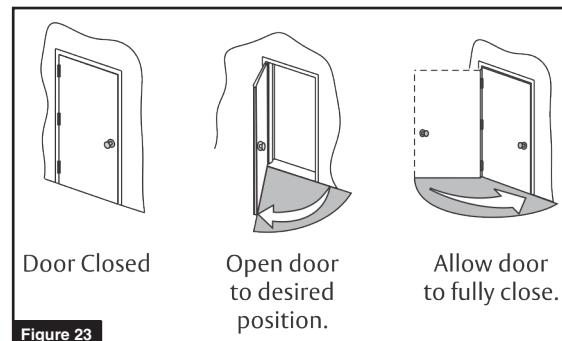

Figure 23
- Push in on joystick again, while door is still closed, to set Home or closed position (Figure 23). Display changes to “Set Open Limit”.
- Open door to desired open position (Figure 23) and push in on joystick again. Display changes to “Closing to Home”.
- Allow door to fully close again (Figure 23). Display changes to “Home”.